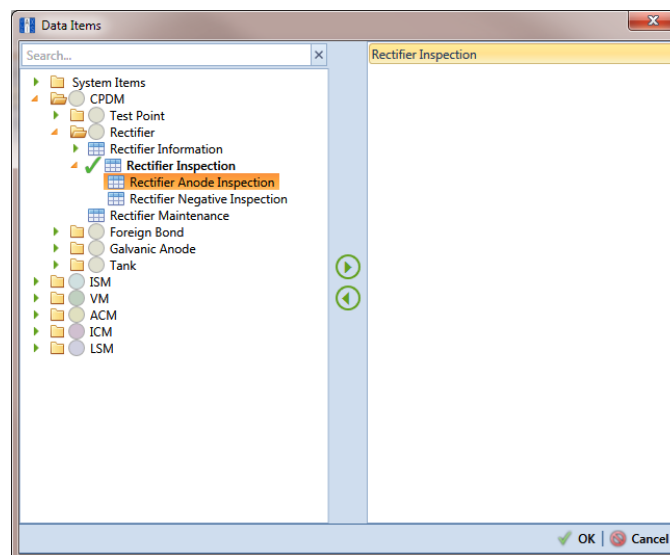

Figure 9-34. Data Items
- 12 Choose data item(s) you want to import and export. Click  **Add Data Item** to open the *Data Items* window and then complete the following steps (Figure 9-34):